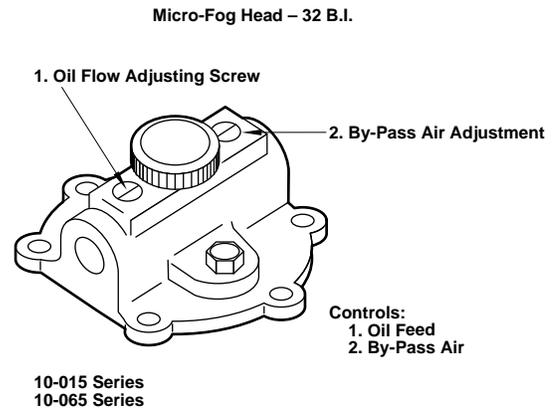

Figure 47
3. Close (turn fully clockwise) the oil flow adjusting screw and by-pass air adjustment (see Figure 47).
6. On model equipped with a by-pass air adjustment (Figure 47), manifold pressure in excess of 15 inches water column may be obtained by turning the by-pass adjustment counterclockwise. Manifold pressure in excess of 15 inches water column may be desired for the following reasons.